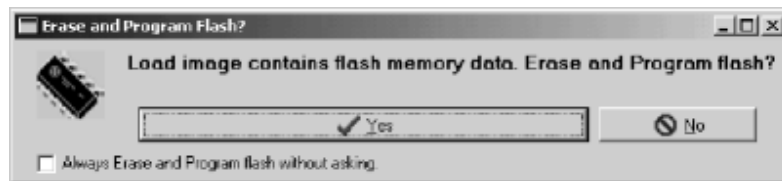

Figure 4-35: Erase And Program Flash Window
11. Click Yes in Erase and Program FLASH window. (Figure 4-35)